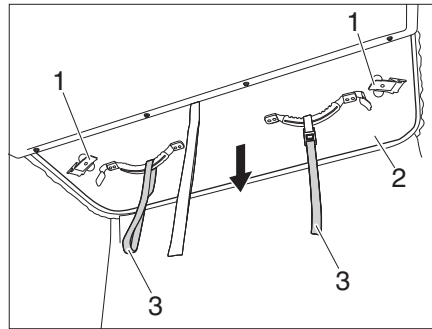
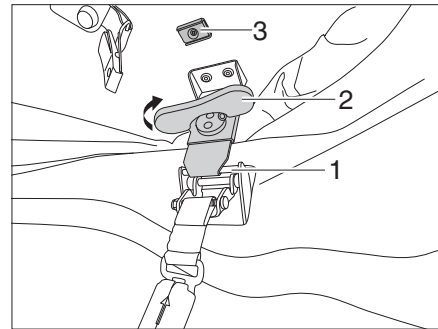

Fig. 36 Pulling the pop-up roof downwards
Fig. 37 Tensioning the locking mechanism
- ▷ Ensure that the locking levers (Fig. 36,1) are attached to the magnet at the top.
- Check whether the locking mechanism are secured by the magnets (Fig. 37,3).
- Use the pulling devices (Fig. 36,3) to pull the pop-up roof (Fig. 36,2) downwards.
- Loosen the locking lever (Fig. 36,1) from the magnet (Fig. 37,3) and attach it into the catch (Fig. 37,1).
- Turn the twist grip (Fig. 37,2) of the locking mechanism clockwise until the locking mechanism is fastened.
- Fold the twist grip (Fig. 37,2) upwards.